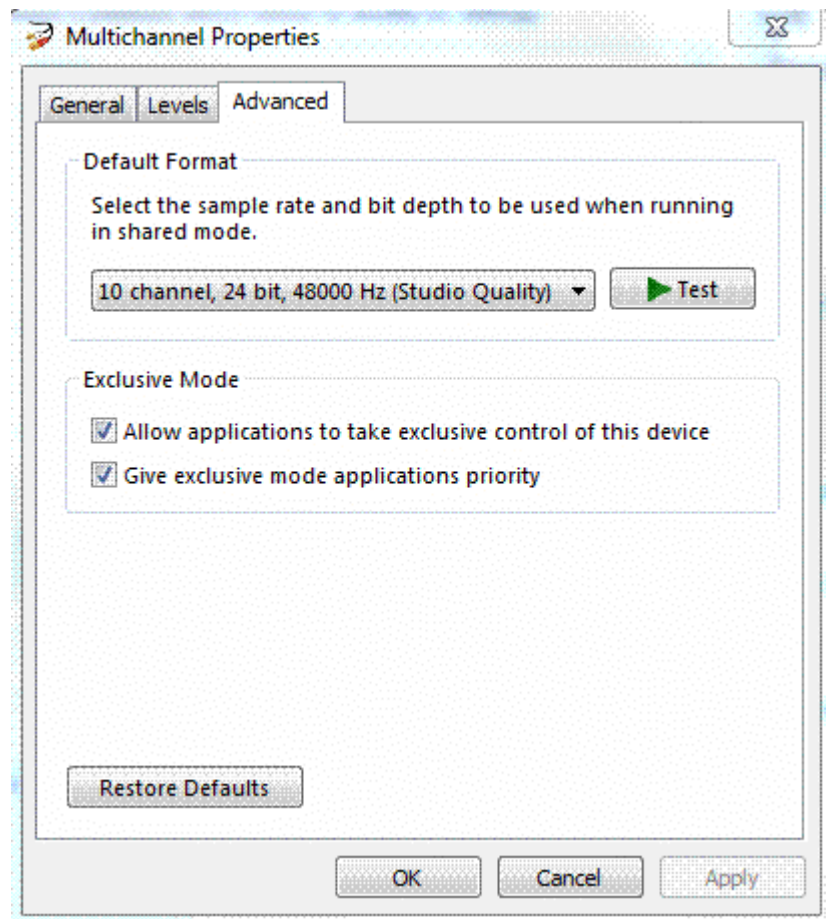

Figure F3. Multichannel Properties Advanced tab (playback).
- Click Properties and select the Advanced tab. The display should appear as shown in Figure F3.